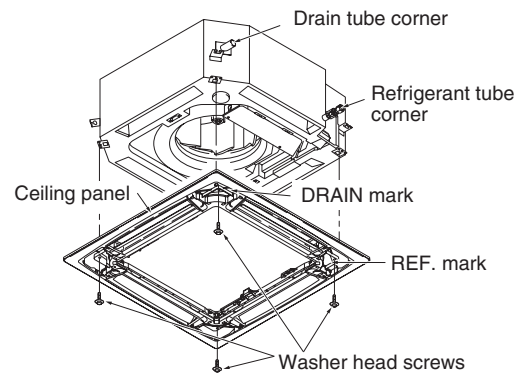

Fig. 1-135
- 3) Tighten the supplied washer head screws at the 4 panel installation locations so that the panel is attached tightly to the unit. (Fig. 1-135)